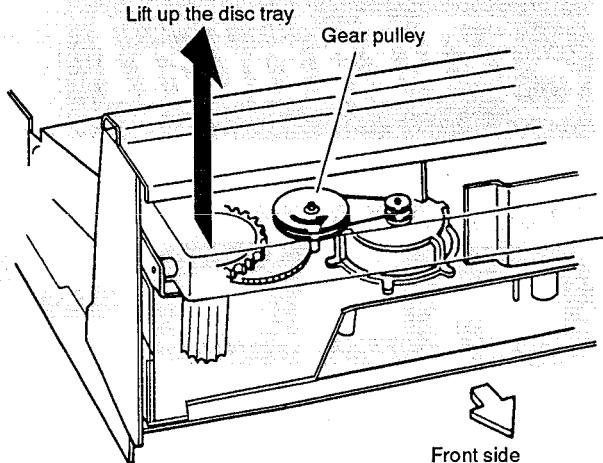

Fig. 3
- ④ Lift up the front side of the disc tray to enable the gear pulley to be turned by hand. (Fig. 3)
- ⑤ Turn the gear pulley (Fig. 3) counterclockwise by hand.
- ⑥ After the disc tray is lifted up and moved toward you, tighten two screws B which were removed in step 3.
- ⑦ Pull out the disc tray toward you by hand.